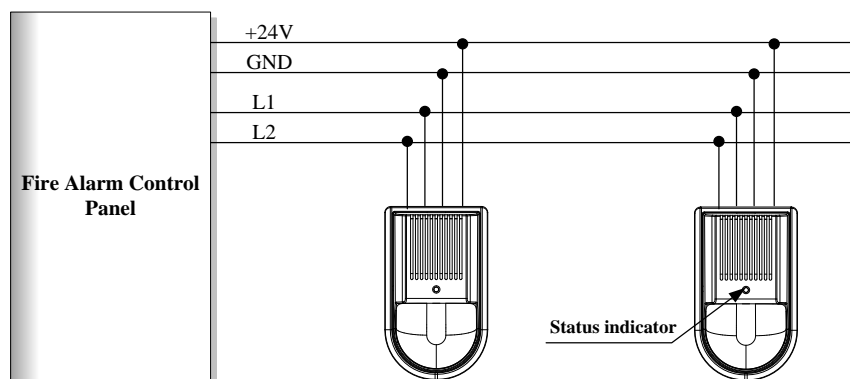

Fig.3
3. Fig.3 shows the general functions and wiring diagram of the product.
- Usage: Do not connect the power supply until the address of the horn/strobe has been set and confirmed and the fire alarm control panel has been properly connected. After the fire alarm control panel is successfully reset, the red status indicator (see Fig.3 for its location) of the horn/strobe will blink. After the horn/strobe receives an operation signal, the status indicator will remain lit and the horn/strobe will give both horn/strobe alarm signals. After the system is muted or reset, the horn/strobe will stop outputting horn/strobe alarm signals and the status indicator will start to blink again.